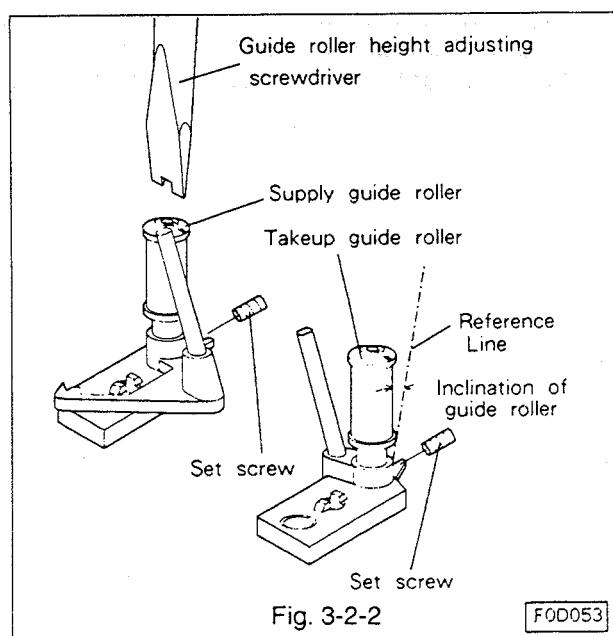

Fig. 3-2-2
- A. Loosen the set screw to such a degree so the supply guide roller turns lightly.(Refer to Fig. 3-2-2.)
- A. Loosen the set screw to such a degree as the takeup guide roller turns lightly.(Refer to Fig. 3-2-2.)